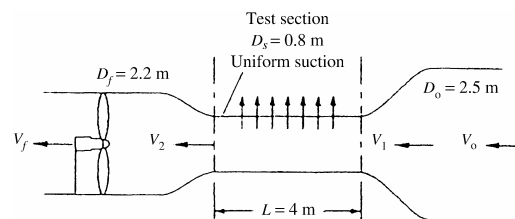

Fig. P3.33
3.33 In some wind tunnels the test section is perforated to suck out fluid and provide a thin viscous boundary layer. The test section wall in Fig. P3.33 contains 1200 holes of 5-mm diameter each per square meter of wall area. The suction velocity through each hole is $V_r = 8 \text{ m/s}$, and the test-section entrance velocity is $V_1 = 35 \text{ m/s}$. Assuming incompressible steady flow of air at 20°C, compute (a) V_0 , (b) V_2 , and (c) V_f , in m/s.